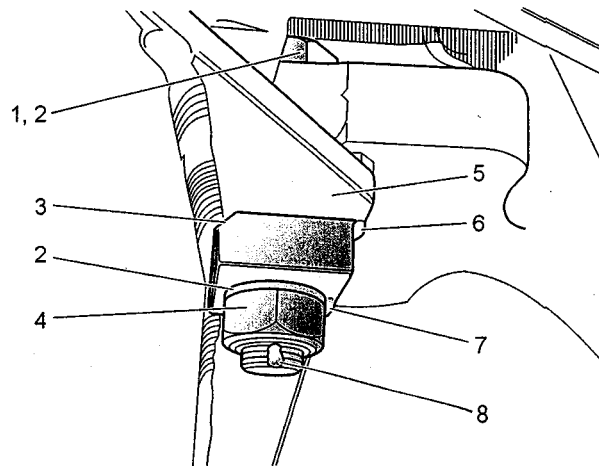

Figure 1-3 New Bolt, Nut and Spacer
6. Install the new chamfered spacer (3), bolt (1), nut (4) and flat washers (2). Refer to **Figure 1-3**.
9. Weld a bead (7) of approximately 1/4 inch on one seam only of each walking beam spacer replaced. Refer to **Figure 1-3**.
12. Apply green torque-seal (8) to all fasteners. Refer to **Figure 1-3**.